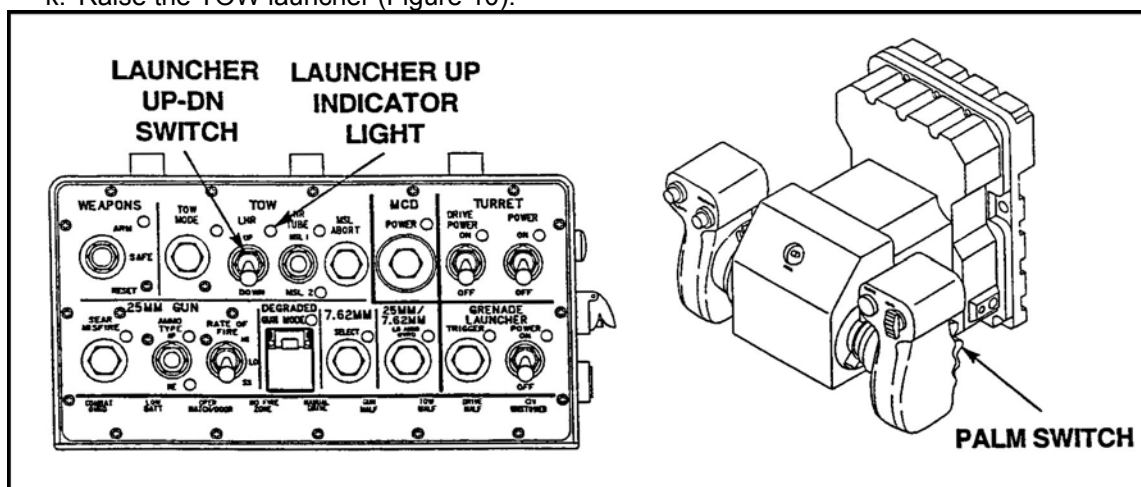

Figure 10. TOW launcher switch.
- (4) Adjust sight picture, as necessary, using the LEVEL, GAIN, FOCUS, BRIGHTNESS, or CONTRAST switches on the CSCP.
- k. Raise the TOW launcher (Figure 10).